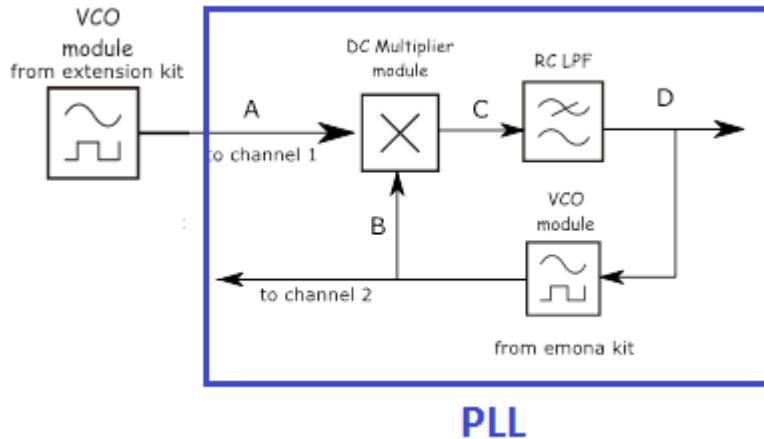

Figure 5- Connection Diagram for PLL locking Range Measurement
- Next, rig up the PLL circuit and connect the output of the VCO of the extension module to the input multiplier of the PLL. See Figure 5.